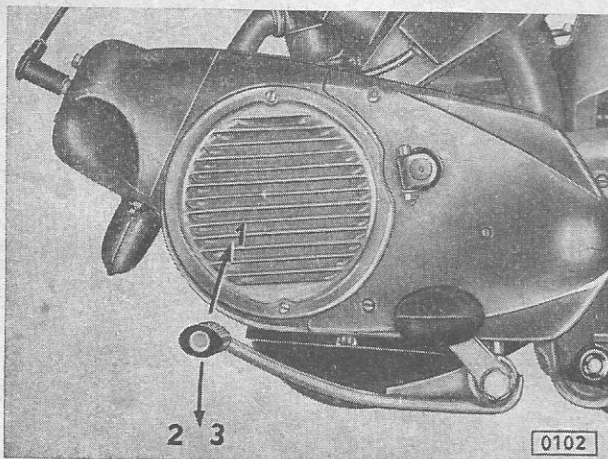

Fig. 2: Foot-operated gear shift lever
4. Foot-operated gear shift (Fig. 2)
1. Pull clutch lever, engage 1st speed (Fig. 2).